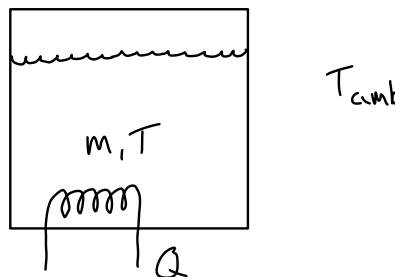

Figure 3: A liquid vessel with a heater.
- Q8) A liquid vessel is heated by a heating rate  $Q(t)$  (see Fig. 3). During the heating process, heat is also transferred from the vessel to the surrounding air, characterized by the heat transfer coefficient  $h$  (unit:  $W/(m^2 \text{ } ^\circ C)$ ). The temperature distribution inside the vessel is assumed to be uniform. A physics-based model for the liquid temperature  $T(t)$  is